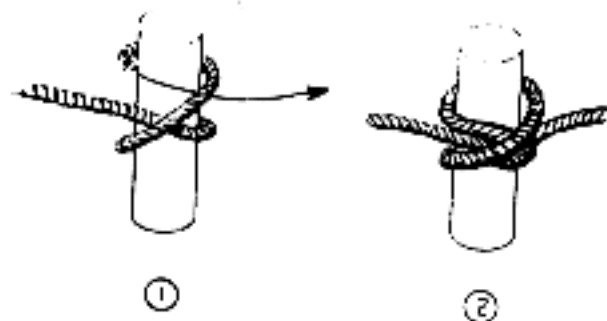

Figure 10-5. Clove hitch
(3) Clove Hitch - Two wraps around the anchor which do not cross secured by locking bar facing 90 degrees in the direction of pull, with more than a 6 inch tail remaining. Running ends exit knot 180 degrees apart. Used as an anchor knot in the middle or at the end of the rope. This knot must have constant tension, once tied, to prevent slipping (figure 10-5).